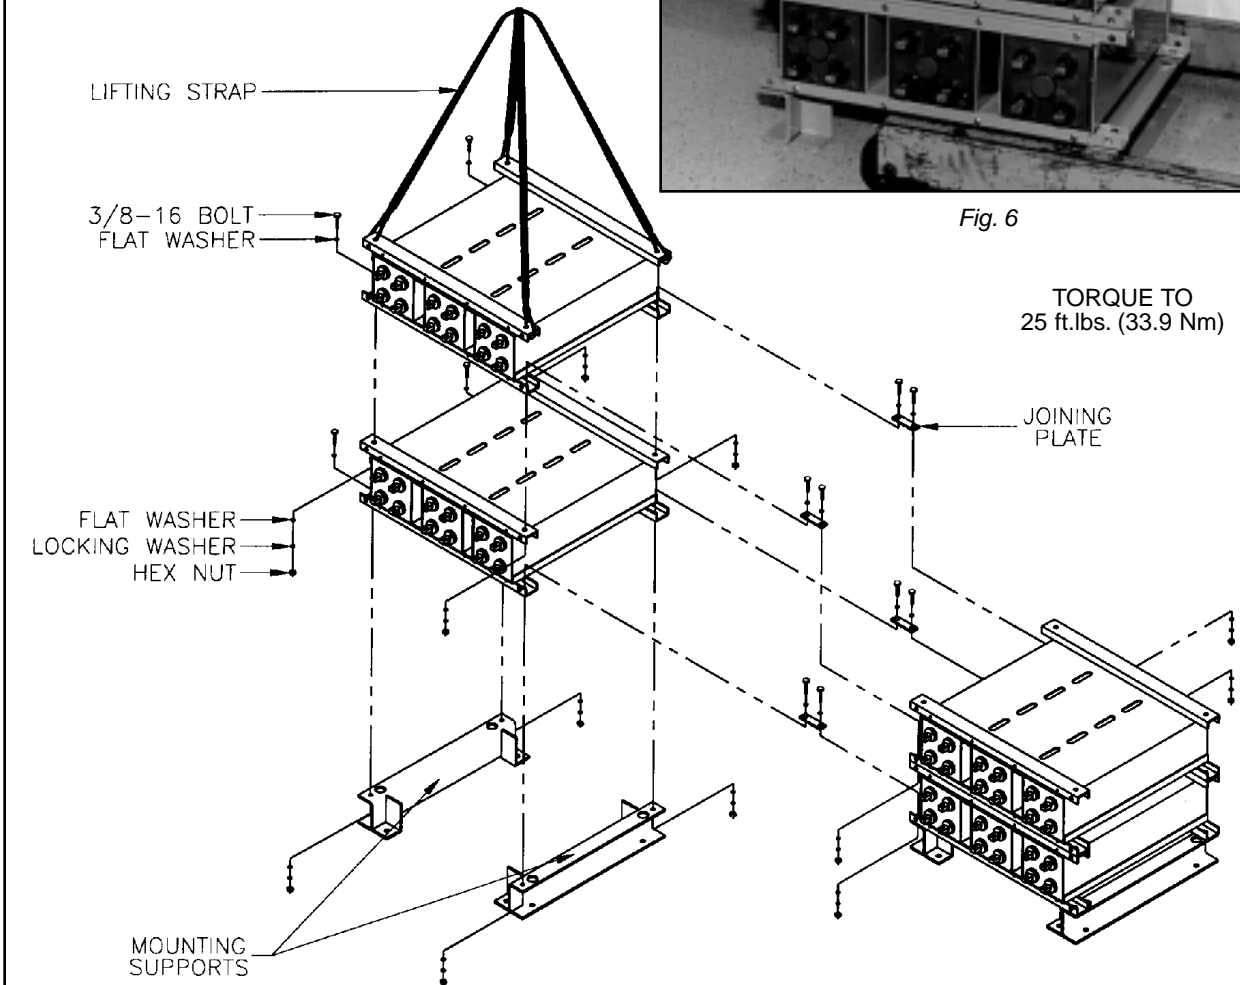

Fig. 7
2. Using the two slings provided, remove the top module and bolt onto the mounting supports. (See Fig. 7, pg. 6 on using the proper lifting equipment.)